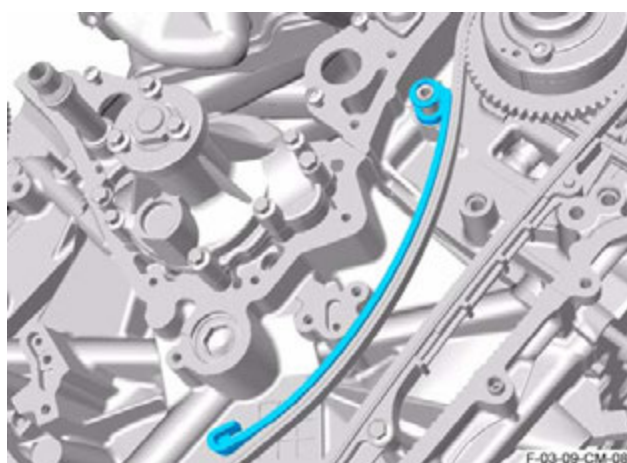

Figure 21
1. Install the tensioner arm (refer to Figure 21).